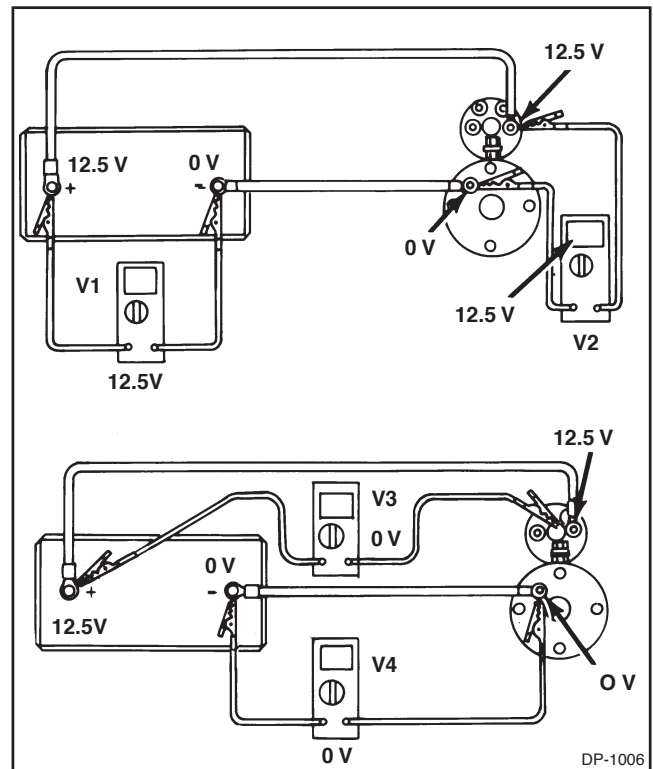

Figure 1-6. Voltmeter Readings With No Current Flow
1-14. MEASURING VOLTAGE WITH THE VOLTMETER. The voltmeter is used to measure electrical pressure or voltage. The unit of measure is the volt. Voltmeters are always connected across (in parallel with) a part of the electrical circuit (See Figures 1-6 and 1-7). The voltmeter measures the difference in electrical potential or pressure between the points where the voltmeter is attached.
1-16. VOLTMETER USE. Figures 1-6 through 1-8 illustrate the proper use of the voltmeter and the types of readings that can be expected.
1. Figure 1-6 shows the voltmeter being used with no current flow, that is with the starter not operating.